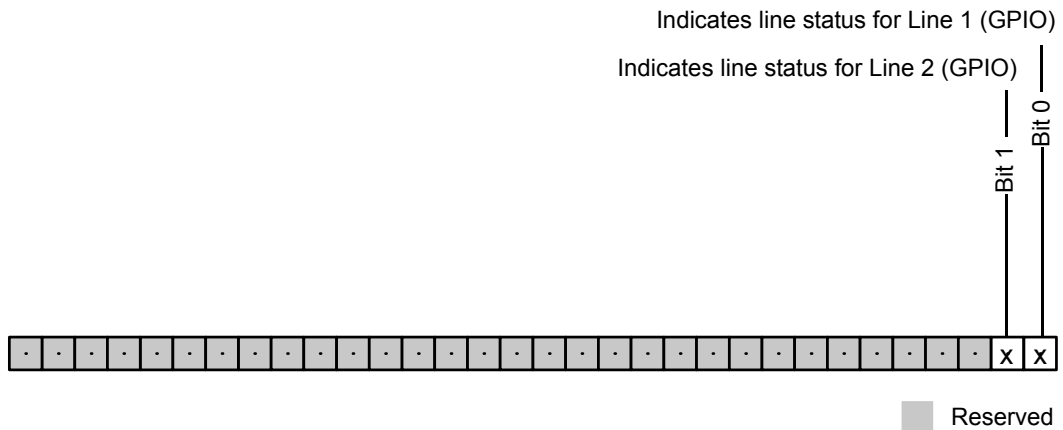

Fig. 17: Bit Field of the LineStatusAll Parameter: Bit Numbers and Assignment of I/O Lines
- indicates the line status of both I/O lines. As shown in Figure 17, each bit in the value is associated with one I/O line and the bits will indicate the status of the lines.
The following table refers to the bit field shown in Figure 17 and lists all possible LineStatusAll parameter values (hexadecimal numbers) and related binary numbers.